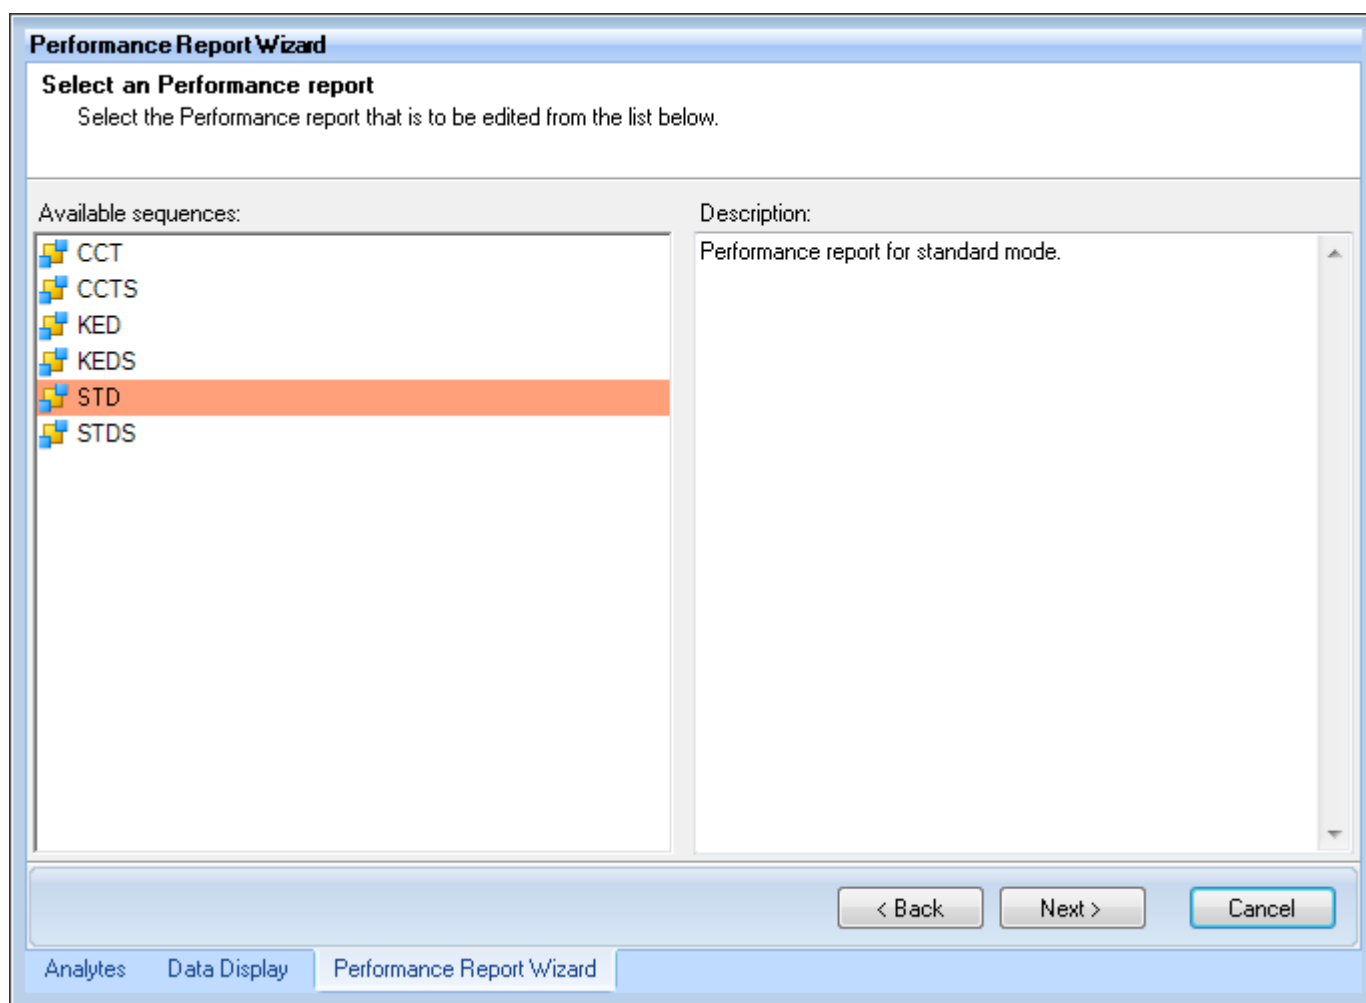

Figure 4-21. Selecting Performance Report
6. Select a **Performance Report**, see Figure 4-21.